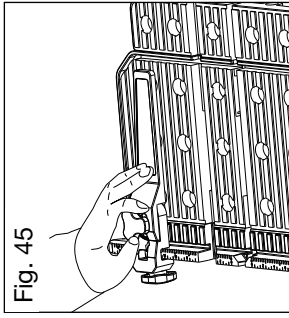

Fig. 45
2. Adjust the parallel/angle guide to the desired angle and tighten the knob (Fig. 45).